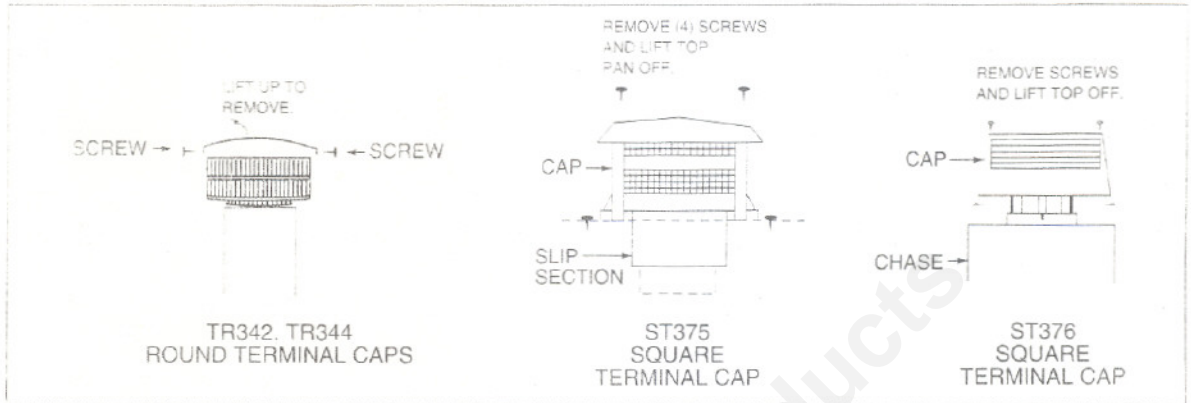

Figure 27
3. Remove the Terminal Cap or Housing Top. See Figure 27.